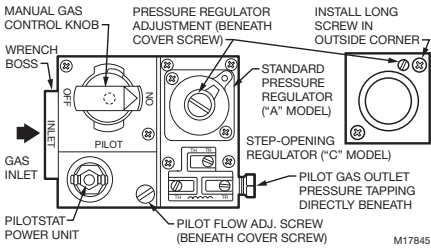

Fig. 3. Top view of standard capacity models.
2. Mount the control so gas inlet is on the end with projecting wrench boss. Refer to Fig. 3 and 4.
6. Connect pipe or coupling to control inlet and outlet. To tighten inlet and outlet connections, use wrench on wrench boss only. Refer to Fig. 3 and 4. If tubing is used, connect tubing to coupling.
3. Unscrew brass compression fitting from the pilot outlet (Fig. 3 or 4). Depending on gas control model, fitting supplied may be for 1/8 or 1/4 in. tubing. Slip the fitting over the tubing and slide out of the way.